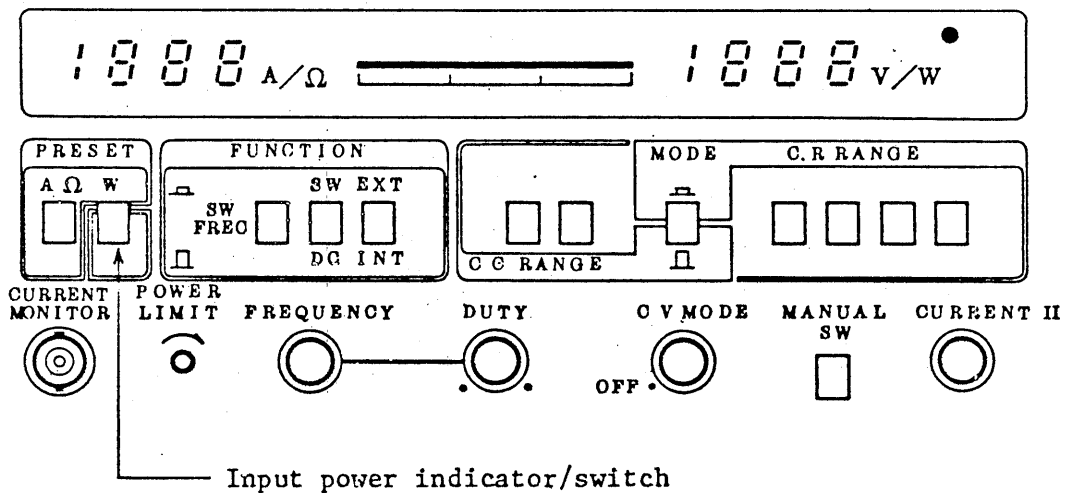

Figure 2-9-1
1. Loading power to the electronic load is indicated on the power indicator. But the value also may be indicated in digital figures with the precision of  $\pm 3\%$  F.S +.1 digit. The loading power indicator/switch in Fig. 2-9-1 is commonly used for presetting the power limit.